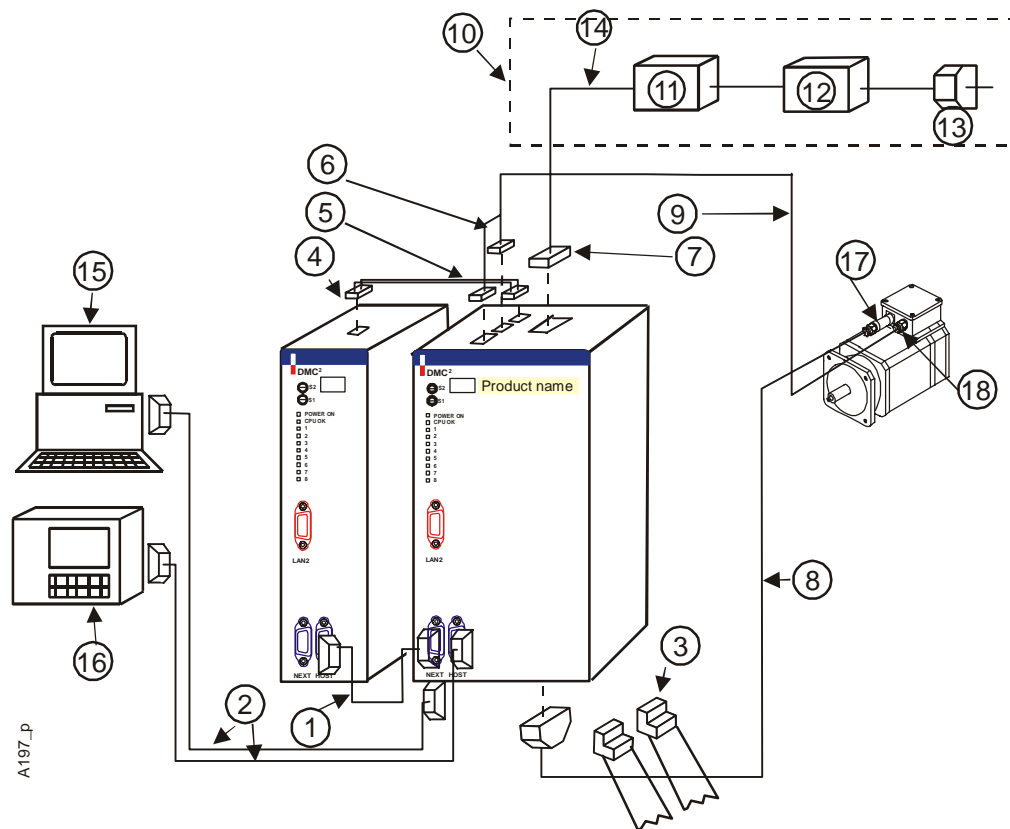

Figure 7. Example of PDS with an AC supplied DMC² unit and a DC supplied unit.
- One AC supplied DMC² unit supplying one or more DC supplied DMC² unit(s) with a DC bus interface. See Figure 7.